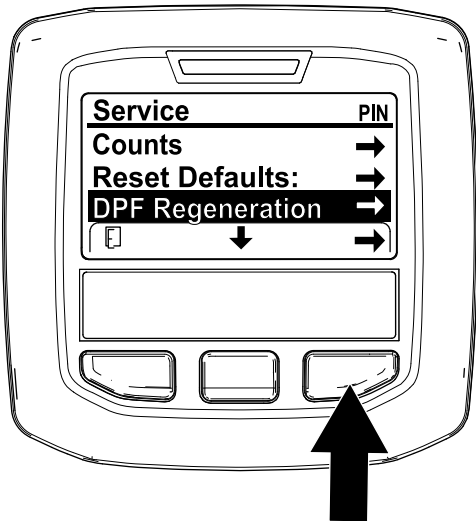

Figure 31
- 1. Access the Service menu, press the center button to scroll down to the DPF REGENERATION option (Figure 31).
- 2. Press the right button to select the DPF Regeneration entry (Figure 31).